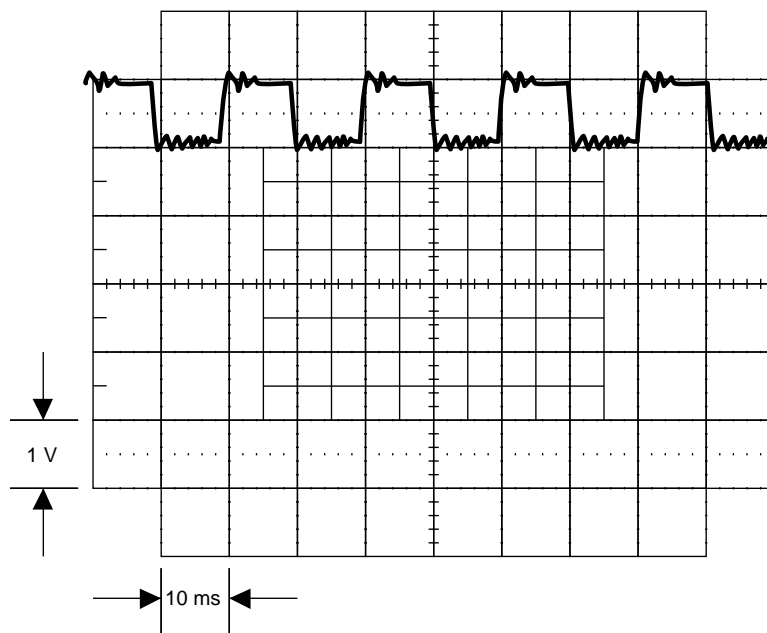

Figure 5-3. Waveform at TP15
4. Check the 4 MHz to 8 MHz feedback signal. Set the 5700A to 1V at 1.2 MHz, operate. Connect an oscilloscope to TP15 and verify it displays a 4.8 MHz signal similar to that shown in Figure 5-3. Use a frequency counter and verify that the frequency of this signal is $4.8 \text{ MHz} \pm 0.01\%$. If a failure is detected, continue with step 5; otherwise skip to step 10.